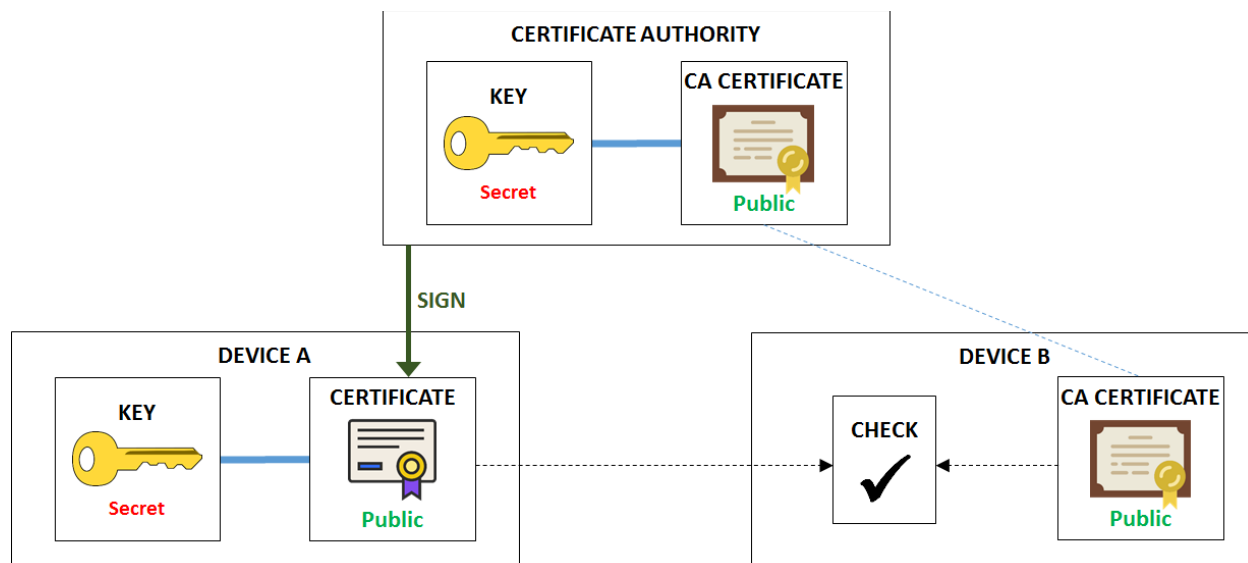
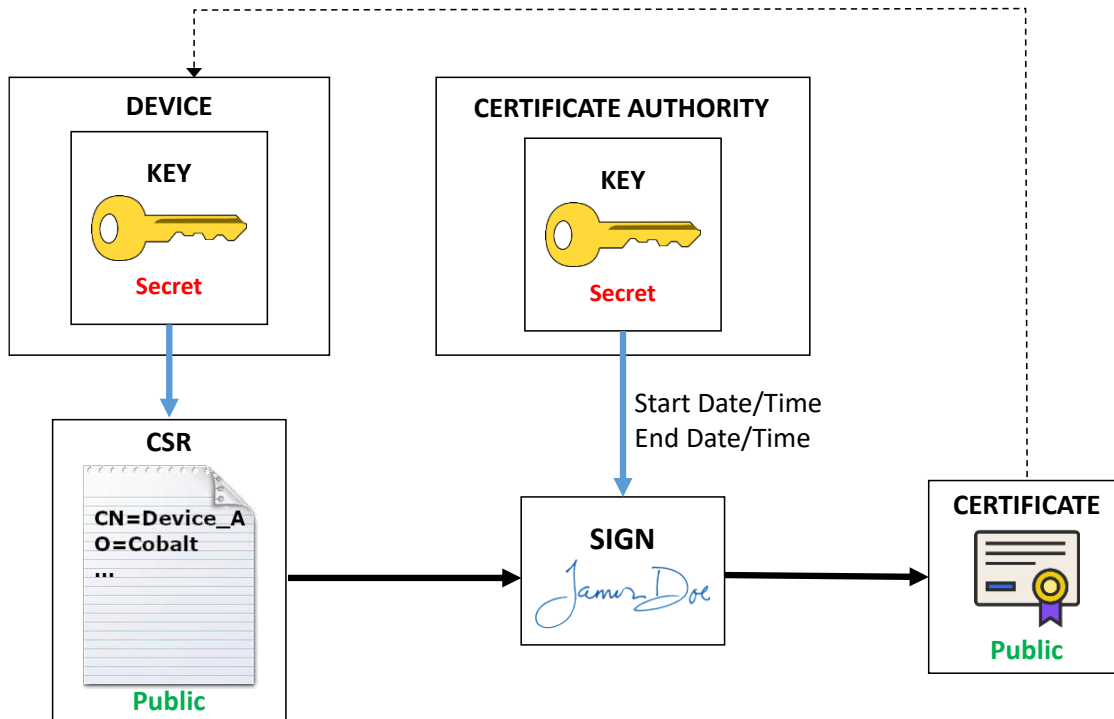
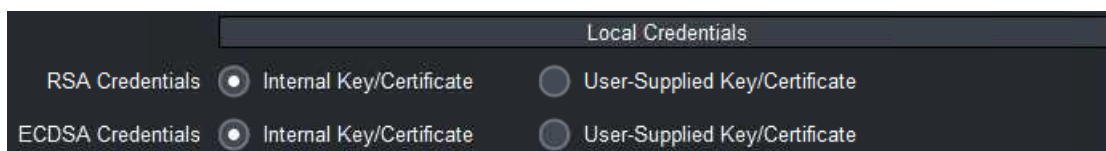

Figure 1: Certificate Checking
Figure 2: Certificate Signing Process
Figure 5: Configuring the Local Credentials
The certificate-based authentication process is illustrated in Figure 1. In this figure, Device B is deciding whether or not it trusts Device A. The same process can happen independently in the other direction. Device B has decided to trust certificates signed by a certain CA, so it has a copy of its CA Certificate, which was transferred to it through some secure means. Device B then receives a certificate from Device A. Unless that certificate matches the key stored in Device A, communication cannot even start. Device B can locally check the CA signature in the certificate coming from Device A against the CA Certificate it has. If that signature matches, and if Device B is prepared to trust the CA, then it will agree to communicate with Device A.
It is possible that a device goes “rogue” – in other words, it used to be authorized, but for whatever reason, it should not be accepted anymore. In Cobalt devices, this functionality is implemented using a list of **blocked devices**. One important field in the certificate is the **Common Name** – i.e., the name of the device. In a web site, this is usually the address of the site, e.g., www.cobaltdigital.com, but it can be any text string. For Cobalt devices, the blocking is done based on the Common Name of the device. Referring back to Figure 1, Device B will execute an additional step after it verifies that the certificate from Device A is valid – it will check that the Common Name is not in a list of blocked devices. If it is, Device B will refuse to communicate, even though the certificate checks out.
Figure 1 shows a certificate that has been signed by a Certificate Authority. In order to be secure, the signing process must not expose the device’s secret key, not the CA’s secret key. The process uses an intermediate file called a **Certificate Signing Request**, or **CSR**. The process is illustrated in Figure 2.
As indicated in Figure 2, the process includes the following steps:
As illustrated in Figure 1, the device needs a matched key/certificate pair to operate. The device's certificate is its identity, presented to remote devices when connecting. Using the DashBoard interface, in the **Authentication** tab, the device can be configured to use either its built-in credentials, or credentials that have been uploaded by the user through the web interface. This is shown in Figure 5.
2. Upload only a certificate that is matched to the internal built-in key. In order to do this, you will need to obtain a CSR from the device itself and get it signed, as illustrated in Figure 2. This process is described in more detail below.
4. Configure the Cobalt device to use the user-supplied credentials, as shown in Figure 5.